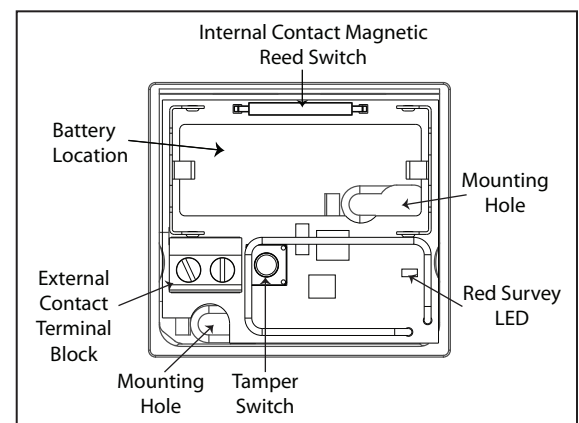

Figure 2: 1105 PCB Layout
3. Place the 3.0V lithium battery in the holder as shown in Figure 2 and press into place.